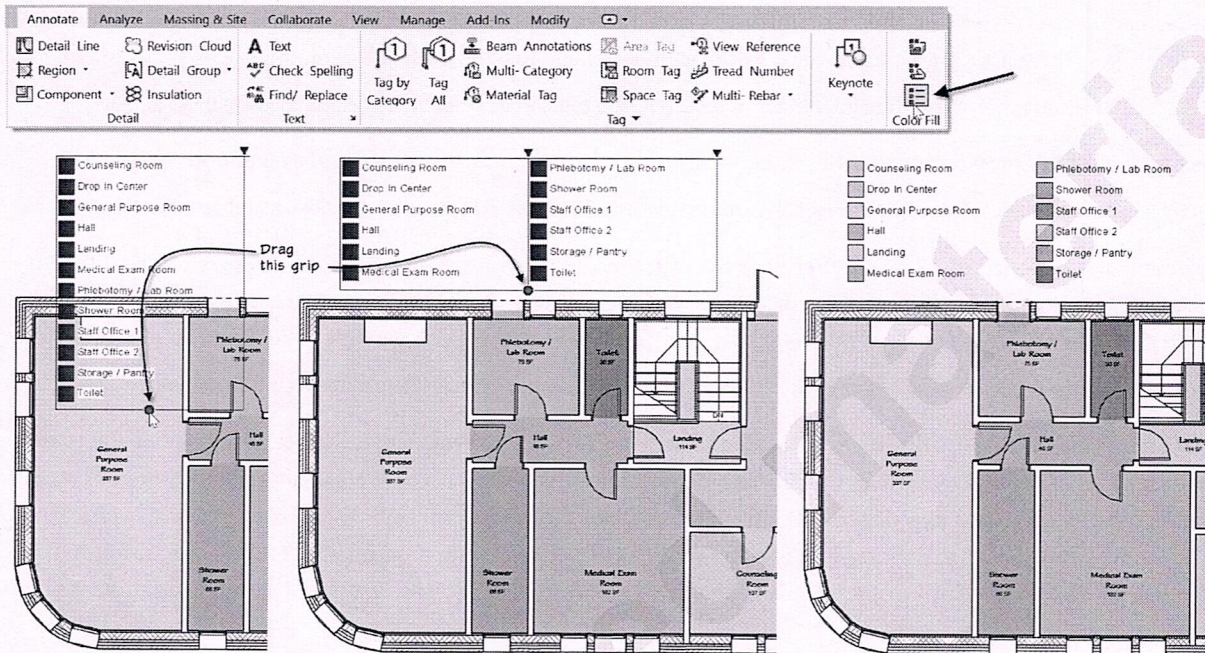

FIGURE 2.17 Create a Legend for the new shaded plan and then resize the legend
13. Click on the Color Fill Legend and then drag the small round Control at the bottom up to make the legend two columns (see Figure 2.17).